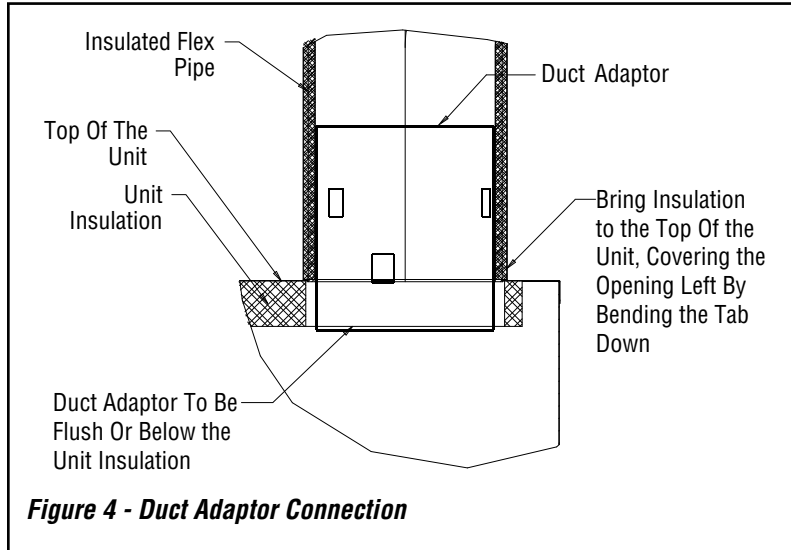

Figure 4 - Duct Adaptor Connection
7. Attach the bottom of the flex-pipe to the duct adaptor on the unit and secure using 4 of the supplied sheet metal screws. Bring the outside insulation and sleeve down to the top of the unit, ensuring that the openings in the duct adaptor, (left by bending the adaptor tabs down) are fully covered (see **Figure 4**).